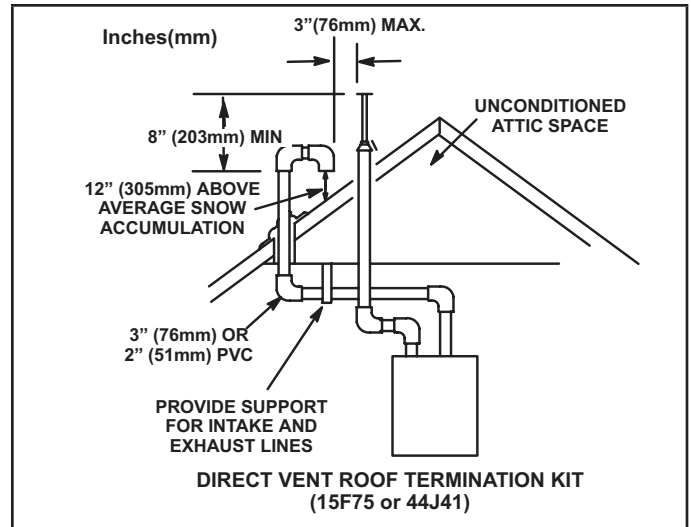

FIGURE 24
Intake and exhaust pipes may be routed either horizontally through an outside wall or vertically through the roof. In attic or closet installations, vertical termination through the roof is preferred. FIGURE 24 through FIGURE 31 shows typical terminations.
- 3 - On roof terminations, the intake piping should terminate straight down using two 90° elbows (See FIGURE 24).